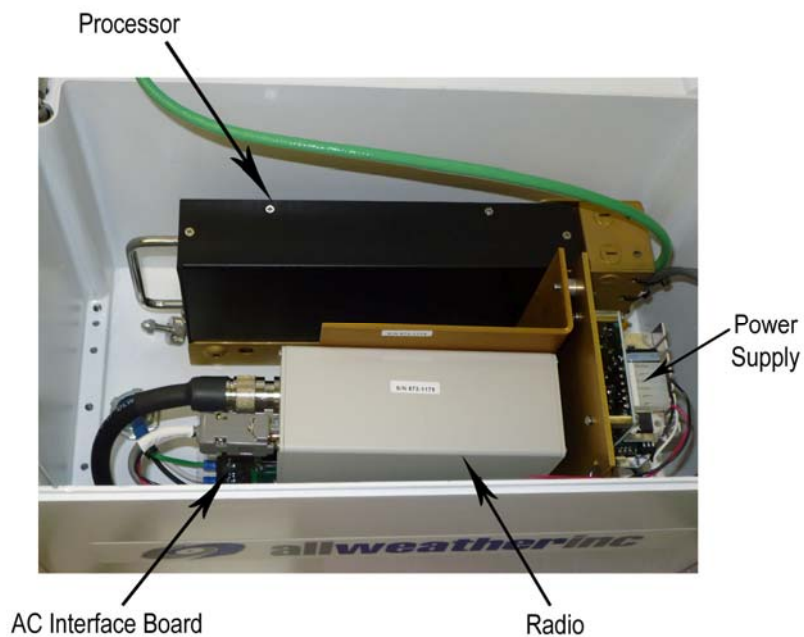

Figure 5. Interface board
- 11 Connect the incoming AC power wires to the AC interface board inside the enclosure (**Figure 5**) according to **Table 1**.